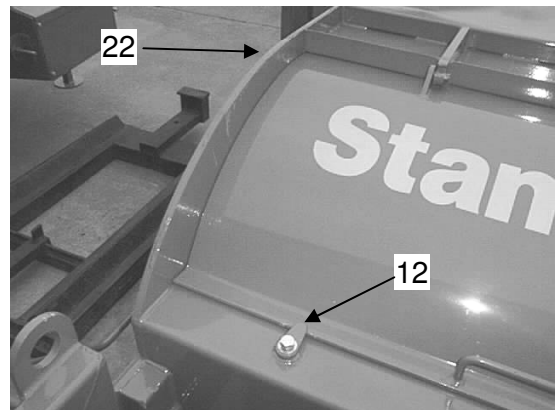

Figure 3
Each access door is locked by two catch plates (item 1, figure 3). Ensure the doors are closed and locked before operating the machine. For maintenance reasons the doors can be locked in the open position by opening the door and then lifting the door lock handle (item 2, figure 3) and rotating it through 90°.